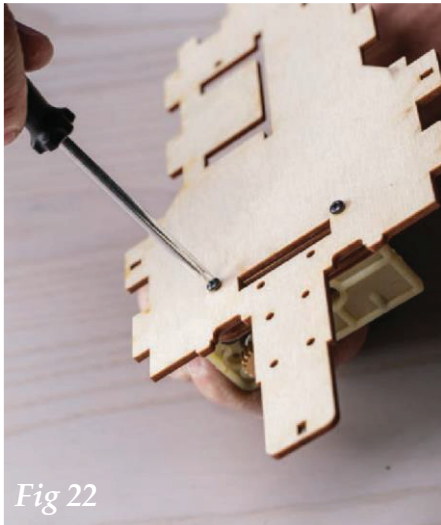

Fig 22
- 2 Screw two **2.6 X 14 mm Screws** through the bottom of the frame into the motor mounting plate (Fig 22, 23).